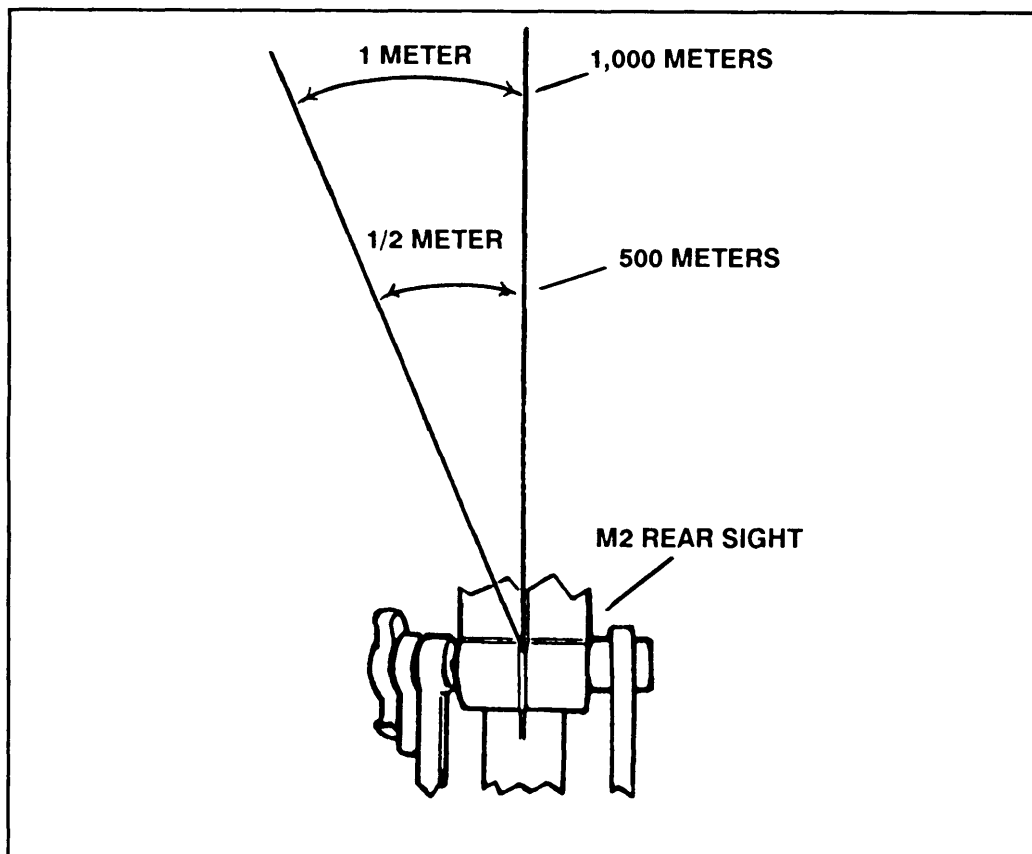

Figure 5-14. Mil relation.
b. Adjustments on the target can be made using the mil relation; that is, one click of traversing or elevating handwheel moves the strike of the round one-half inch on the target at 10 meters. When firing on field targets, adjustment is made by moving the burst into the target. One click of traverse will move the strike of the round one-half meter at 500 meters, or one meter at 1,000 meters (Figure 5-14). However, the distance one click of elevation will move the strike of the round depends on the range to the target and the slope of the ground. The gunner determines the number of mils necessary to move the center of the strike into the target, and he manipulates the gun the required number of mils. This does not require the use of sights. For example, should the gunner fire on a target at 500 meters and observe the strike 10 meters to the right of the target and short about 50 meters, he would traverse the gun to the left 20 clicks (mils) and add one or more clicks (mils), depending on the slope.